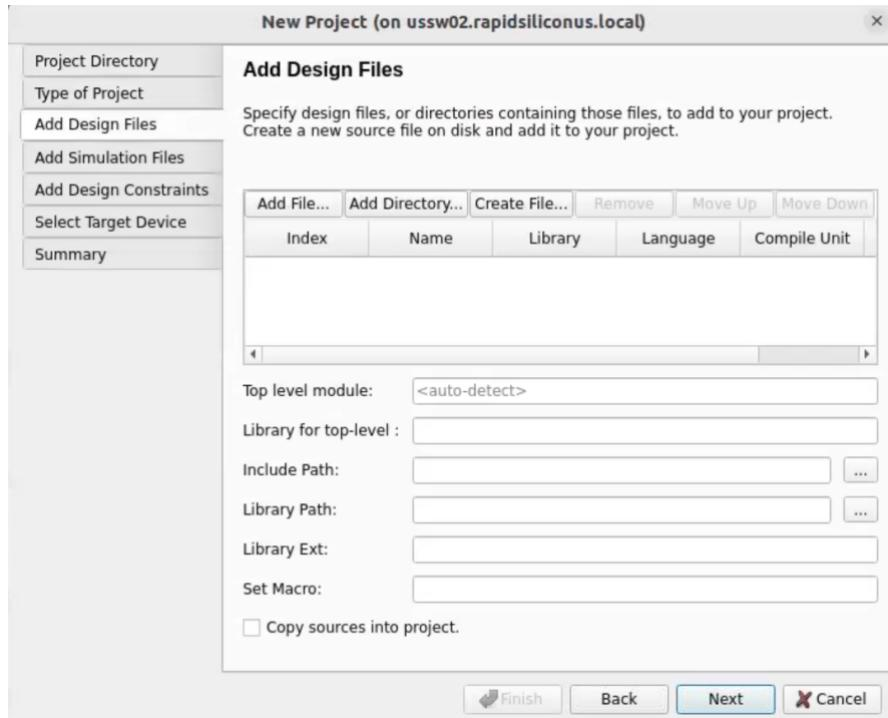

Figure 12. Add Design Files
3. Add Design Files: Various methods to add design files are described in **Figure 12**